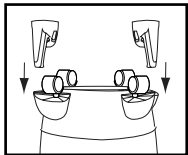

FIGURE 6
7. With tank inlet facing you, attach hose holder **A** to caster foot **A**, and hose holder **B** to caster foot **B**. **FIGURE 6**.